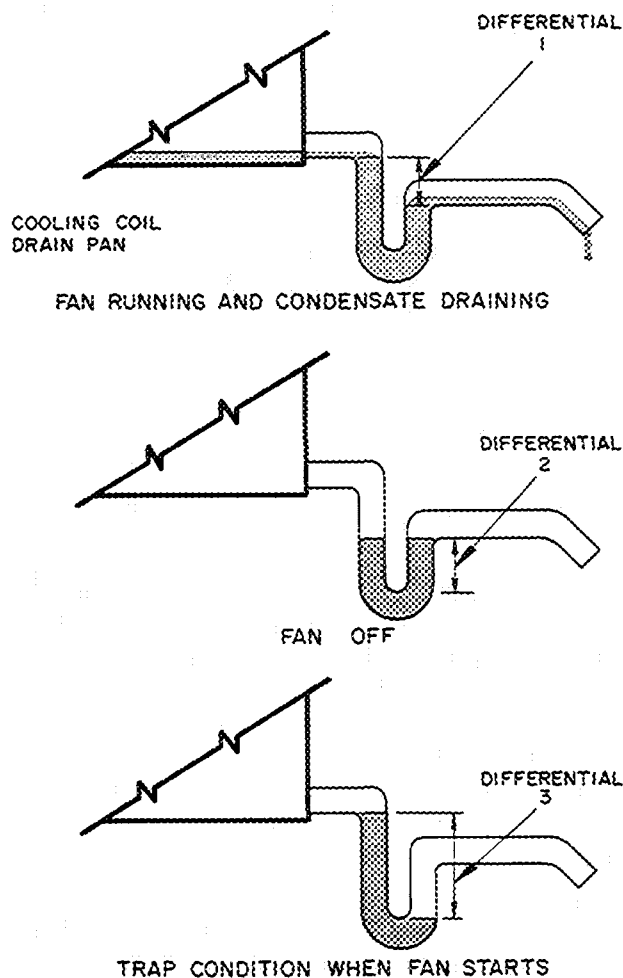

Fig. 17 — Condensate Drains
Step 12 — Install unit drain line — Install a trapped condensate drain line at unit drain connection (Fig. 1). The drain requires standard pipe connected to condensate pan nipple as shown in Table 4. Figure 17 shows proper trap design.
Referring to Fig. 17, Differential 1 must be equal to or larger than negative static pressure at design operating conditions. Store enough water in trap to prevent losing seal (Differential 2). This differential must be equal to or larger than one-half the maximum negative static pressure. When the fan starts, Differential 3 is equal to the maximum negative static pressure.